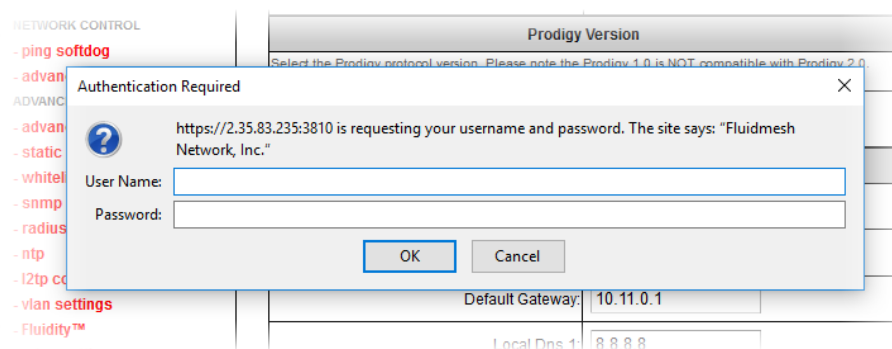

Figure 62. Web browser (Authentication Required dialog)
- The web browser will show the **Authentication Required** dialog (Figure 62 (page 143)). If needed, use the dialog to log in again.